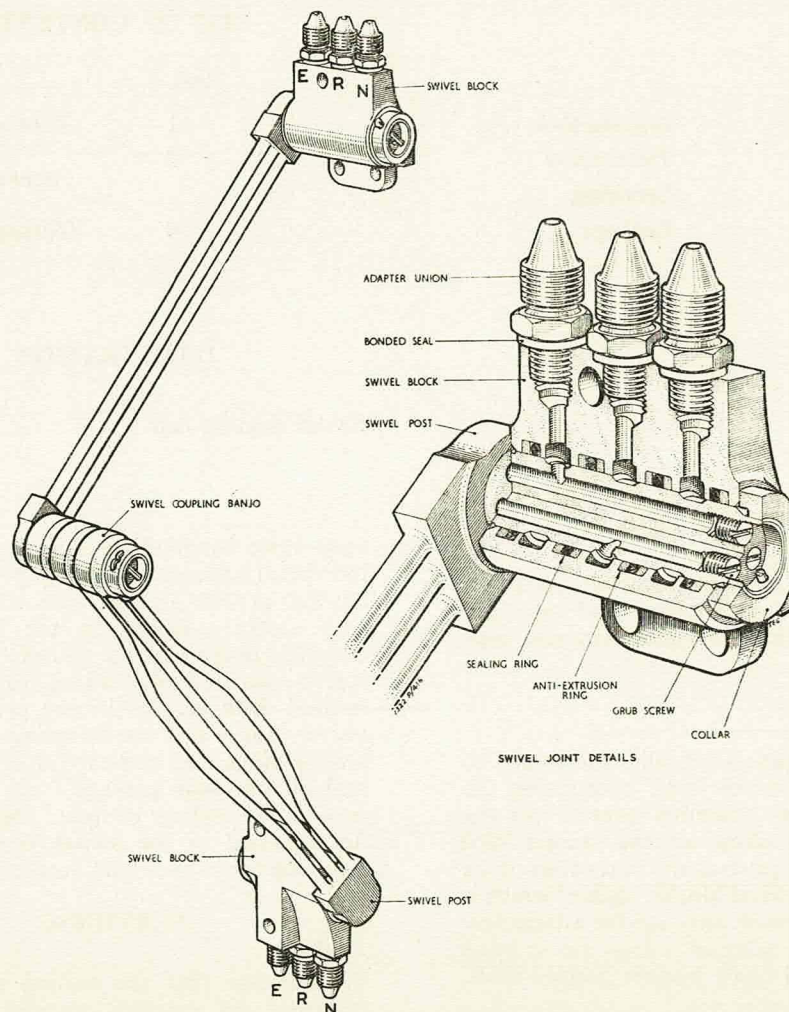

Fig. 1. Swivel coupling unit
- (1) Referring to *fig. 1*, connect the supply line of the static hydraulic test rig to one of the connections N and apply pressure. Fluid should flow freely from the open connection N.
- (2) Blank off the open connection N and gradually apply a pressure of 2250 lb/in² with the unit remaining static. Leakage is not permissible. Release the pressure.
- (3) Raise the pressure to 100 lb/in² and rotate each swivel joint through 180 deg. and back ten times and through 360 deg. ten times (five clockwise and five anti-clockwise). If a swivel joint cannot be rotated through the full range of 360 deg. due to the obstruction of the other pipe,